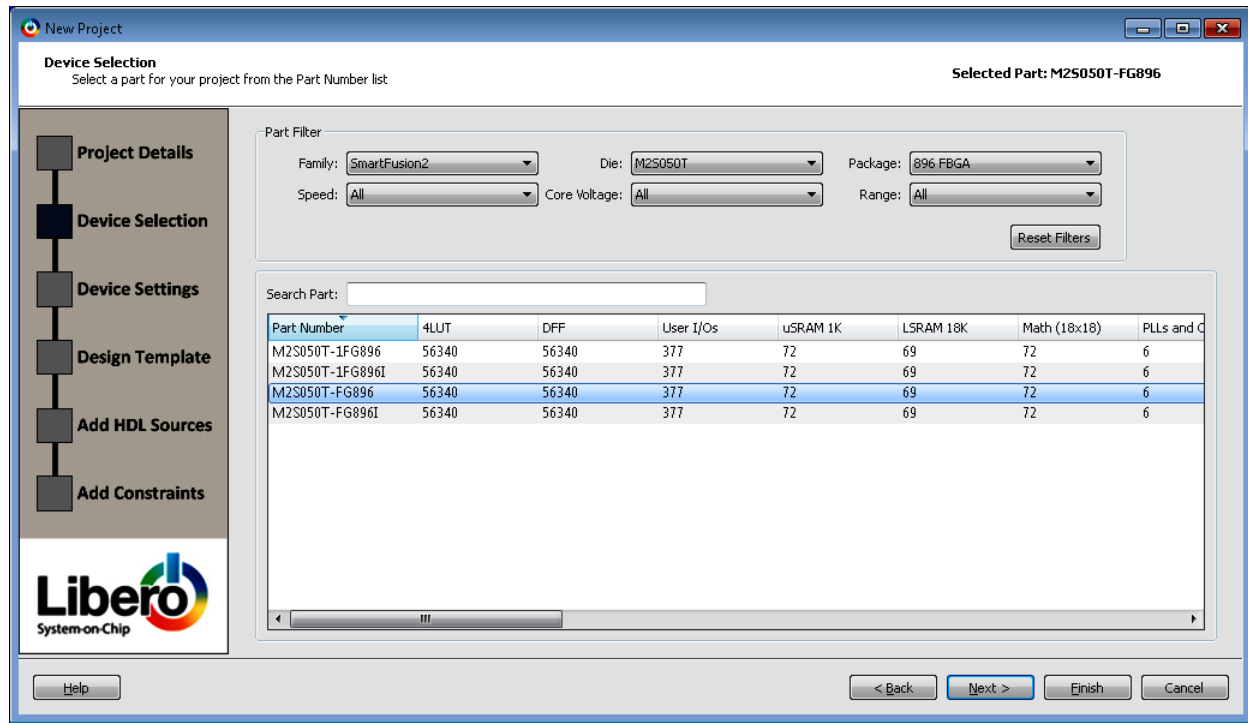

Figure 4 • Device Selection Window
3. Click Next. In the Device Selection window, select the information displayed in Figure 4 on page 7.